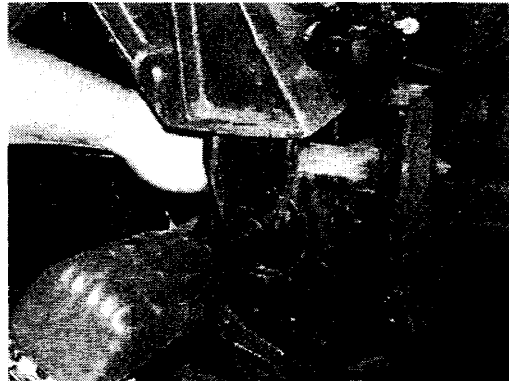

Figure 3 – Remove Lower Mount Bolt
6. After replacement of the cab-side cab mount bolts, un-block and lower cab, re-install lower cab mount bolt (see Figure 3).